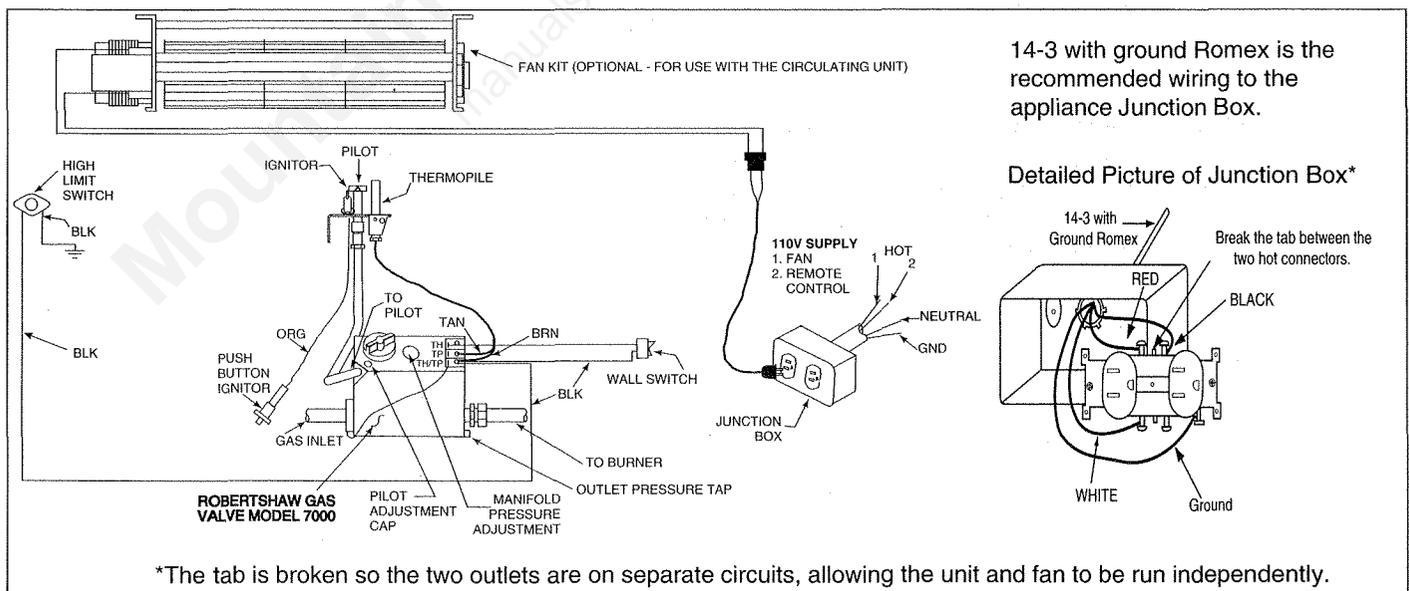

Figure 13
1. Remote Wall Switch. Position the junction box that will house the wall switch (neither are provided) in the desired place on the wall. A wiring diagram is shown in Figure 13. If you extend beyond the wall switch wires provided, you must not wire on nut extensions, but replace existing wires with the desired length. NOTE: extended
2. Optional Accessories Requirements. Optional accessories may be added now or at a later date. However, wiring should be done now to avoid significant wall reconstruction if accessories are added later. The optional fan kit requires a 110VAC supply to the appliance junction box for operation. In line with this junction box, you must have an on/off switch or a BC10 Motor Speed Control. No additional 110VAC supply is required for the BC10. The remote controls (RC4 or RC6) require a separate 110VAC supply directly to the appliance junction box, as shown in Figure 13. Wiring diagrams are provided with all accessories.